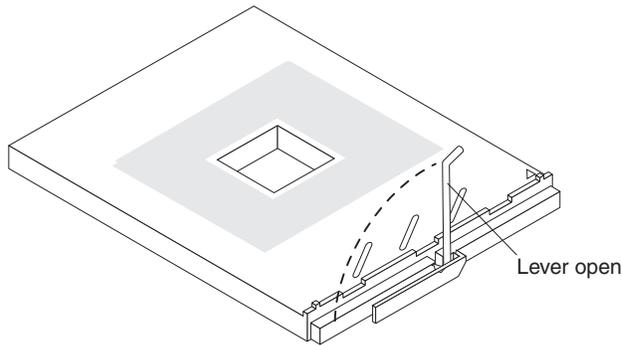

Figure 19. Opening the microprocessor locking lever
12. Lift the microprocessor-release lever (see Figure 19) to the fully open position (90°).